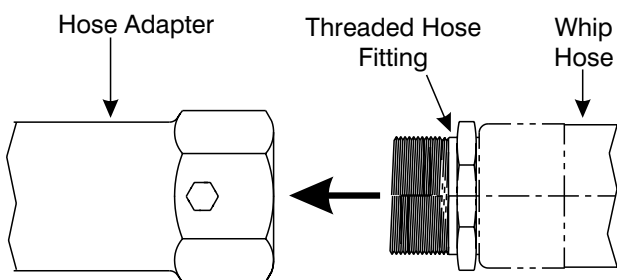

Figure 9-25. Thread the Whip Hose fitting into the Hose Adapter
4. Align the threads of the hose fitting with those of the Adapter and thread the Whip Hose (14) into the Hose Adapter (15). Refer To Figure 9-25.